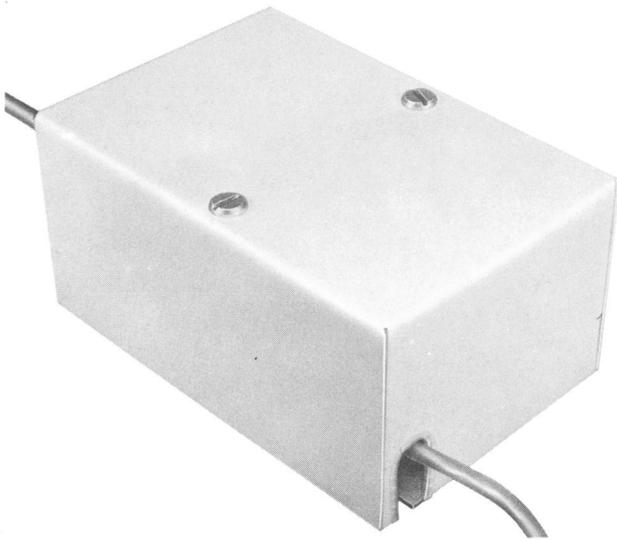

Fig. 11—218A Power Unit—Cover Installed
- 3.06 The 218A power unit (Fig. 11 and 12) provides basic dc power to the RAU. The power unit occupies a mounting space of 5 inches wide, 8 inches high, and 5 inches deep. The power unit provides +16 volts, -16 volts, +9 volts, and ground to the RAU.